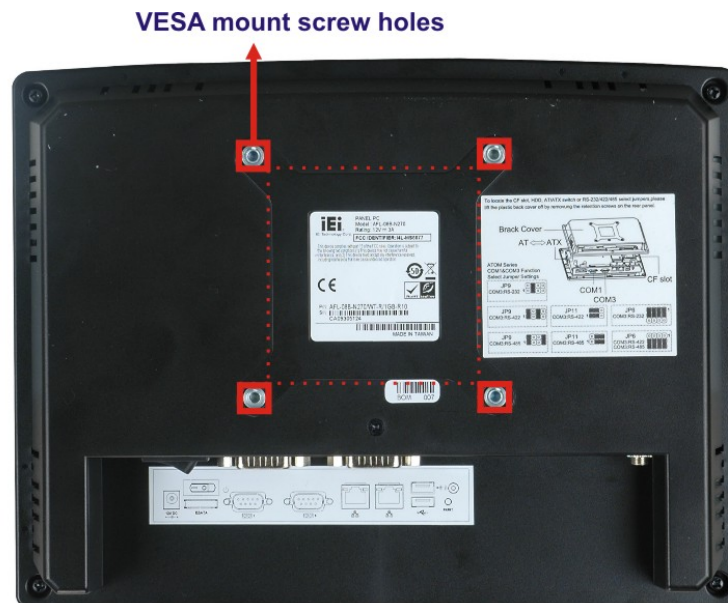

Figure 2-19: AFL-08B-N270 Arm Mounting Retention Screw Holes
Step 3: Align the retention screw holes on the mounting arm interface with those in the panel PC. The arm mount retention screw holes are shown in **Figure 2-19**.